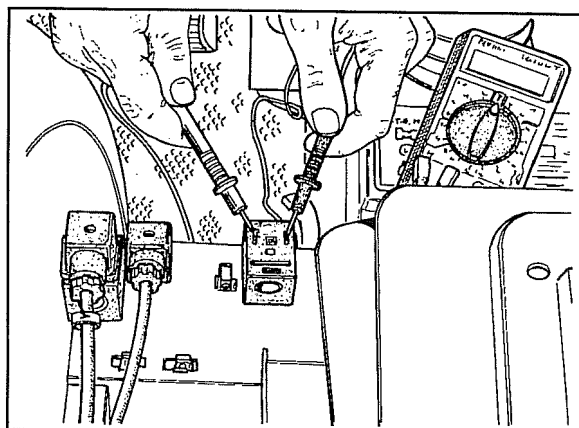

Fig. 4
- 5 When you get 12 V on the plug, measure the resistance on the dual traction solenoid coil, see fig. 4.
18 Use a tester to check solenoid coil resistance applying the same method used to check the dual traction solenoid coil as shown in fig.4.